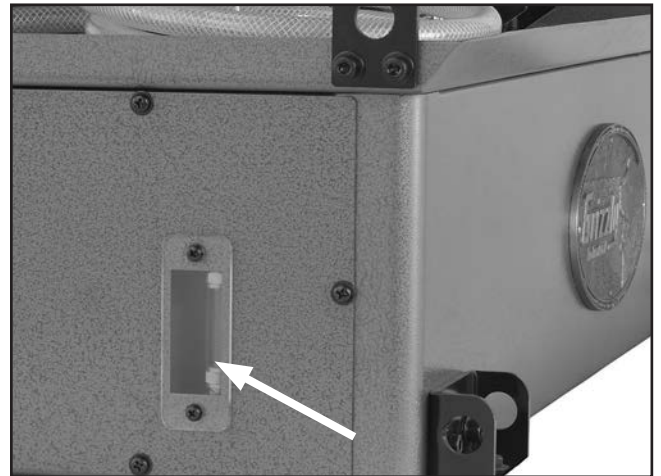

Figure 27. Coolant level sight glass.
- Monitor the coolant level frequently to keep the system working properly. **DO NOT** let coolant level fall out of view on the sight glass (see **Figure 27**).